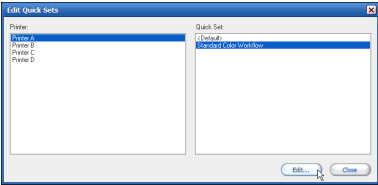

Figure 5—Edit Quick Sets
3. Highlight the **Quick Set** you want to modify, and click **Edit**. This opens the Edit Quick Set dialog (see Figure 5).